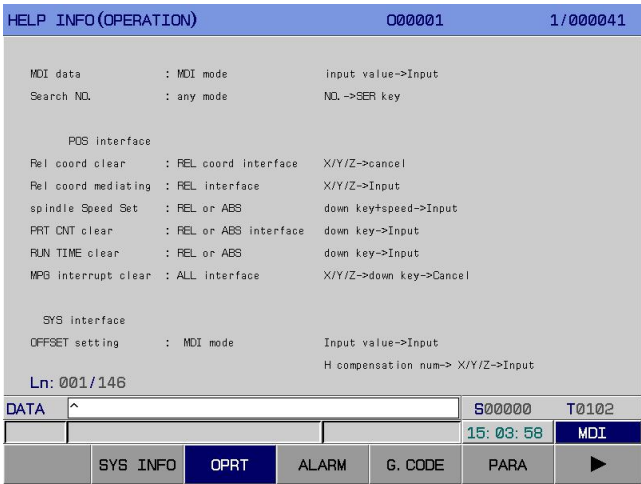

Fig.3-9-2
2. Operation table interface: On <Help> interface, press [Operations] to enter the help information (operation table) interface, as shown in Fig.3-9-2: